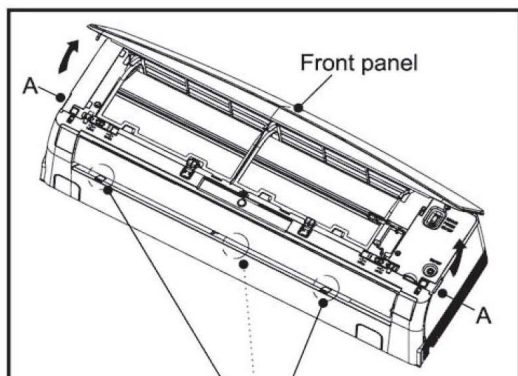

Fig. 413
- 2) In the A position, open the front panel as shown in Fig. 413.